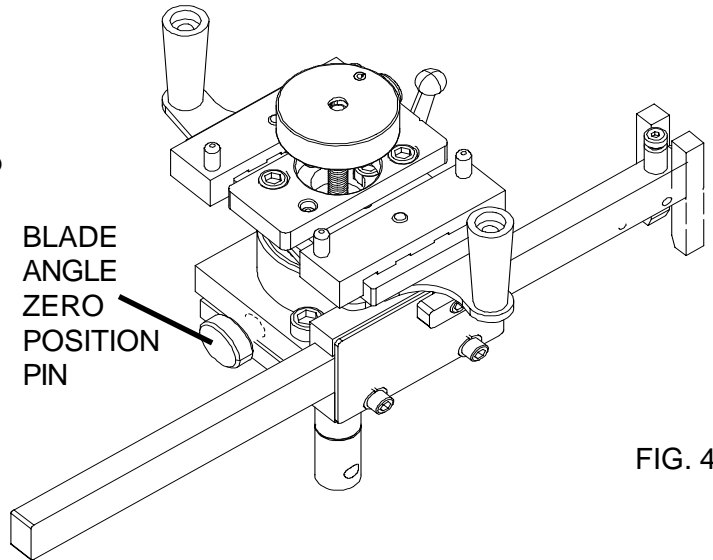
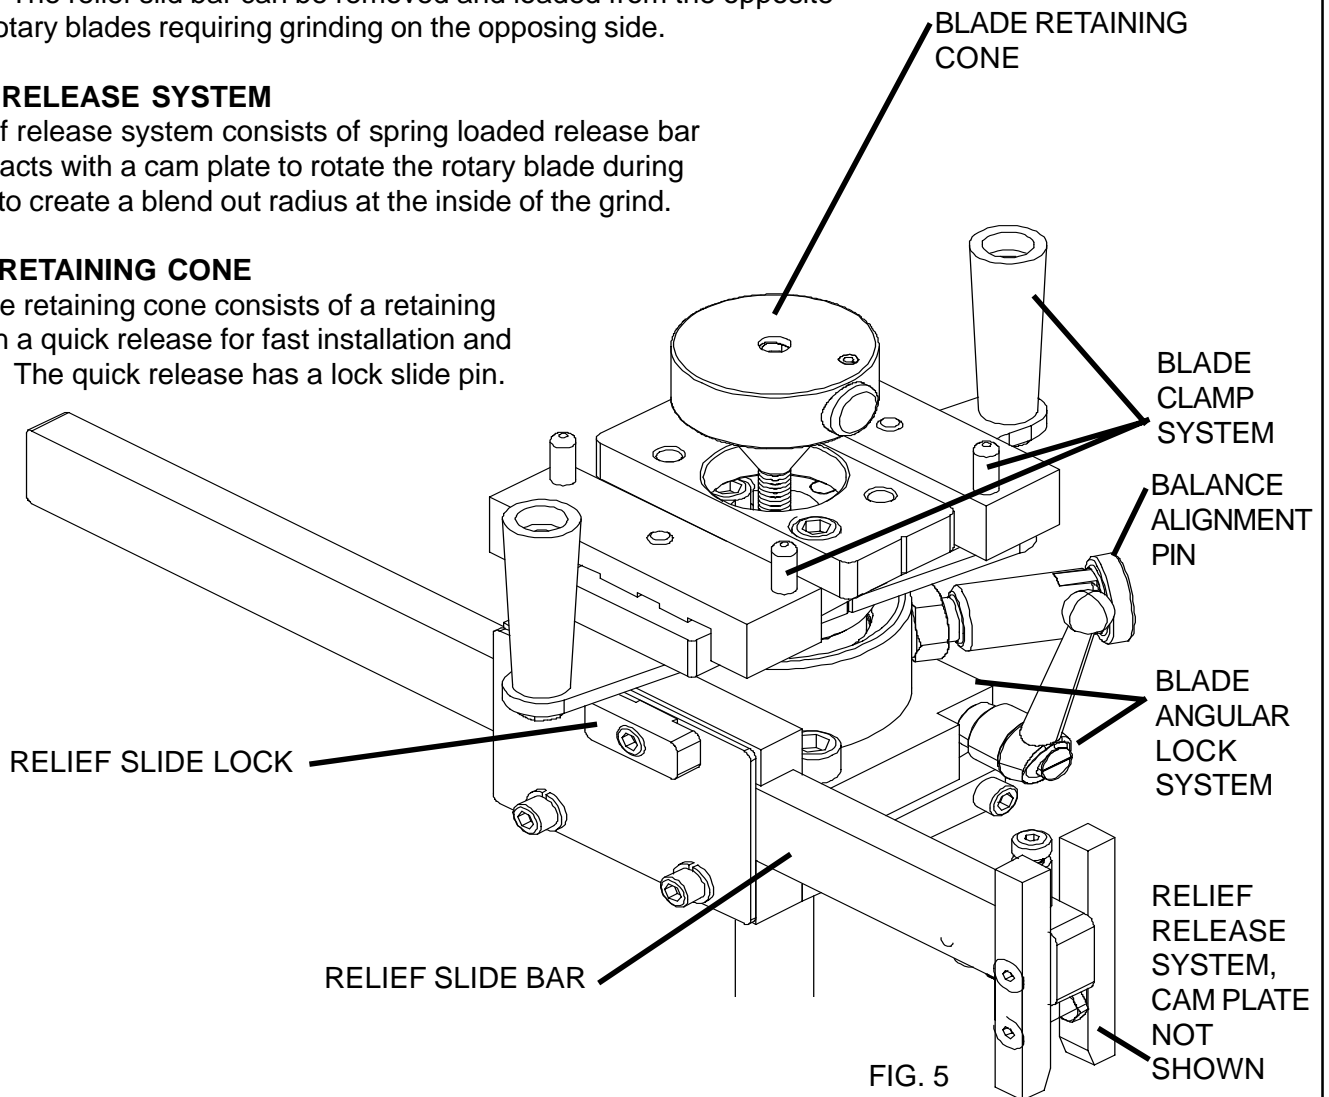

FIG. 4
FIG. 5
See FIG. 4 and FIG. 5
1. Remove the relief slide bar. See FIG. 5..